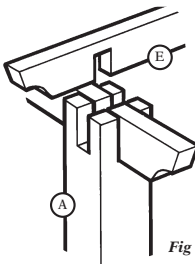

Fig 2.
- 2** Then slot the two Rafters (E) across the first rafters to form a square frame at the top of the posts (see Fig.2 left).